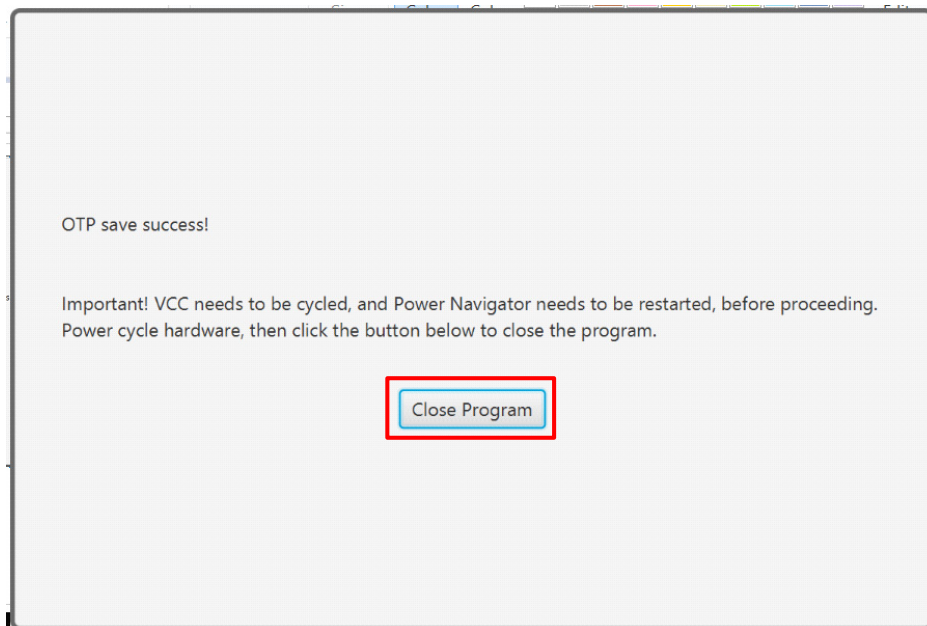

Figure 9. Window Showing OTP Save Success
- 14. When saving to the OTP is successful, another window pops up (see Figure 9). Click **Close Program** to close the Power Navigator. Power cycle the board.